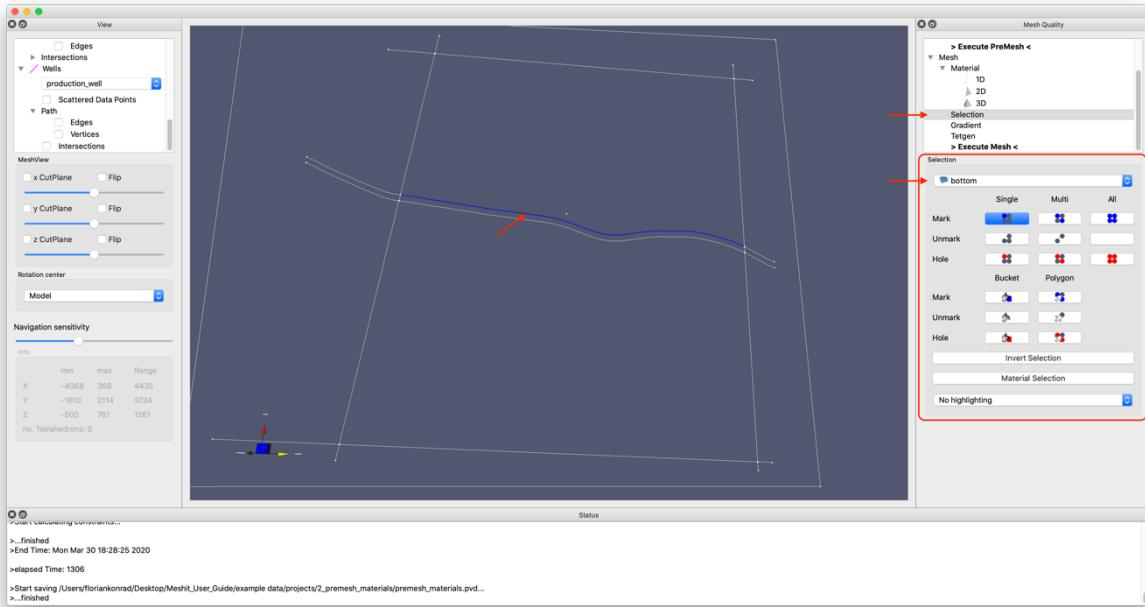

Figure 8 Selection menu and example for one selected (blue) intersection
- Select the relevant intersections that define the area which will be meshed (definition of a piecewise linear complex, see Blöcher & Cacace (2015)) using the provided selection tools (see Figure 8)